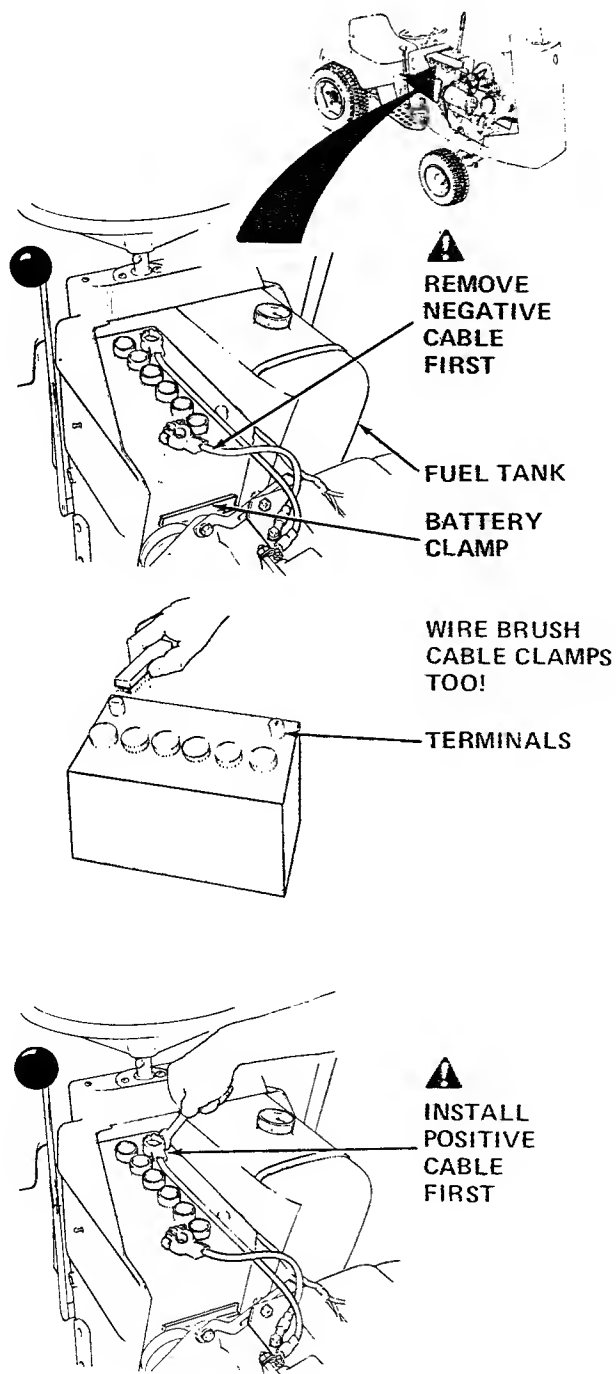

Figure 12. Clean Battery and Cables (100-Hour Care)
5. If it was removed, install battery. (See figure 12.)
charging the battery properly. If there is any doubt about the cause of the problem, see your dealer. If you need to replace the battery, proceed as shown in the battery cleaning procedure (figure 12).